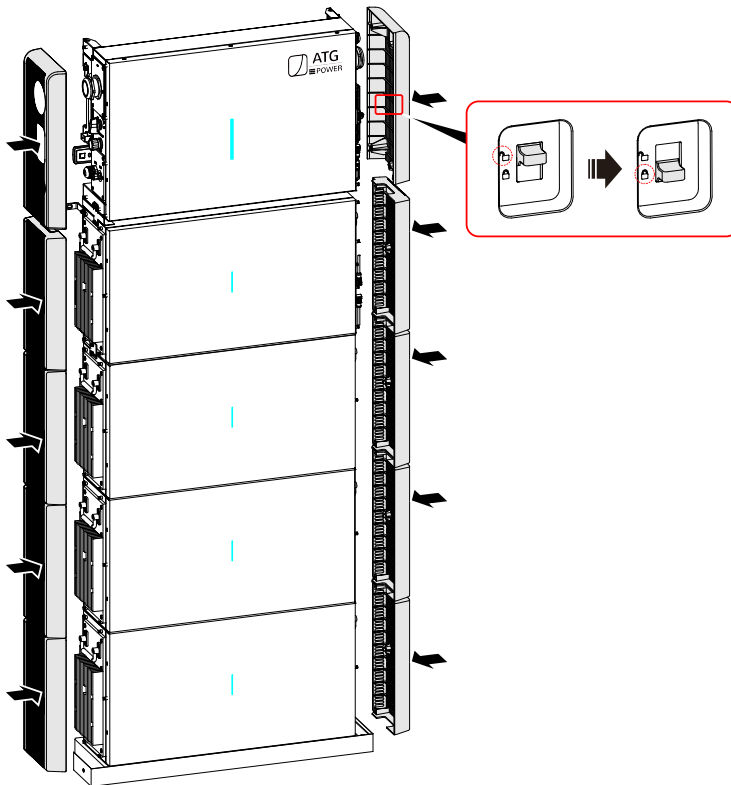

Figure3-50 Fix the side cover panel
Step 2 Fix the side cover panels, as shown in Figure3-50.